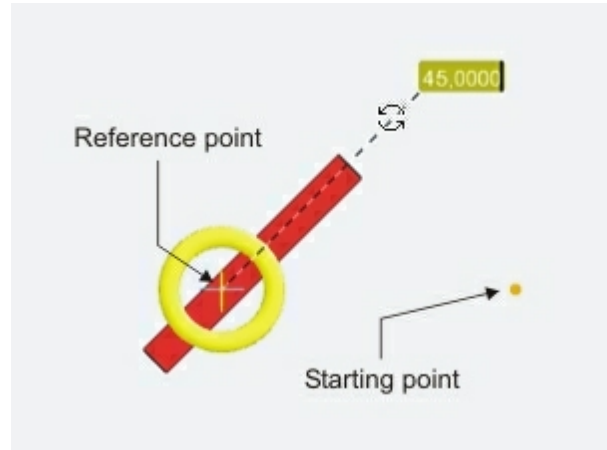

Figure 1
2. The **reference point** – surrounded by a yellow circle – is located where you double-clicked the object (Figure 1).
3. **Click again** to define the location of the **starting point** for the rotation (Figure 1).
5. The number right next to the mouse pointer is the **value of the rotation in degrees** (Figure 1).